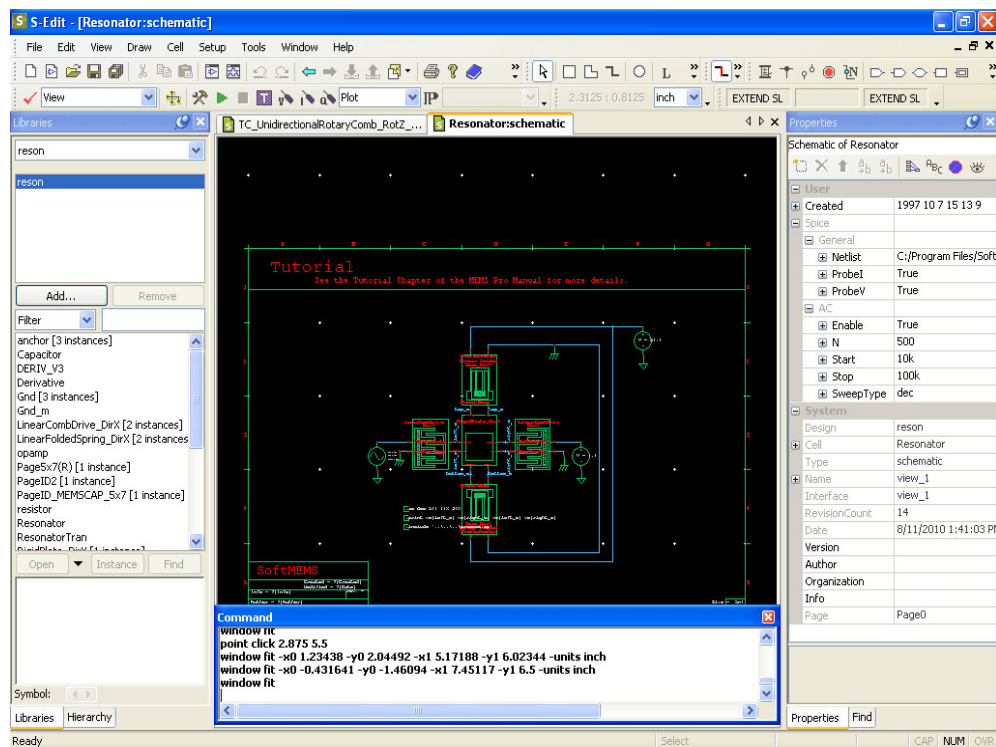

Figure 1: Schematic view of the complete resonator
The current (visible) file, cell, page and mode are named at the top of the title bar. The schematic view of the resonator appears in Figure 1.
- Compare your design to the complete design in Figure 1 to make sure you have placed the voltage sources correctly or switch to the Resonator cell to compare as described previously.
- ☑ Compare your design to the complete design presented in Figure 1 to make sure the resonator has been wired correctly.